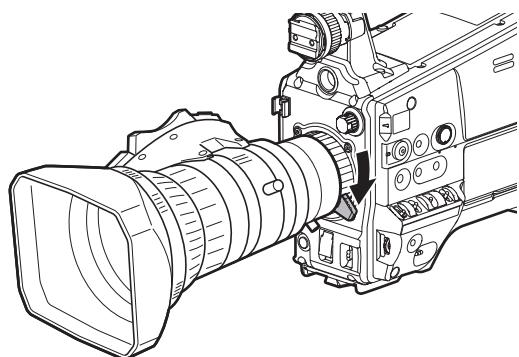

Fig. 3
**3** Lower the lens lever to firmly clamp the lens. (Fig. 3)